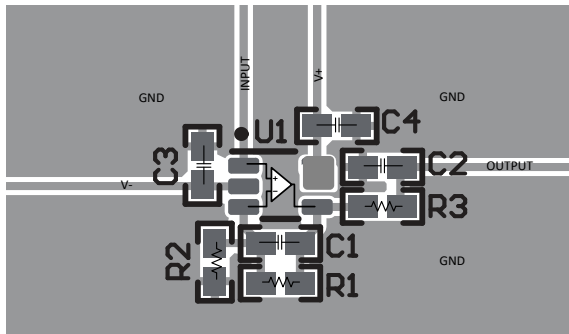
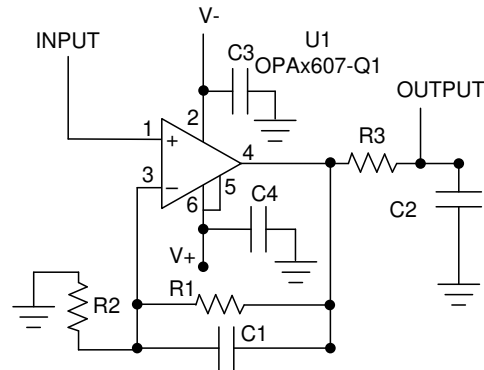

图 11-1. Operational Amplifier Board Layout for a Noninverting Configuration
图 11-2. Layout Example Schematic
- Place the external components as close to the device as possible. Keeping R_F and R_G close to the inverting input minimizes parasitic capacitance; see 图 11-1 and 图 11-2.